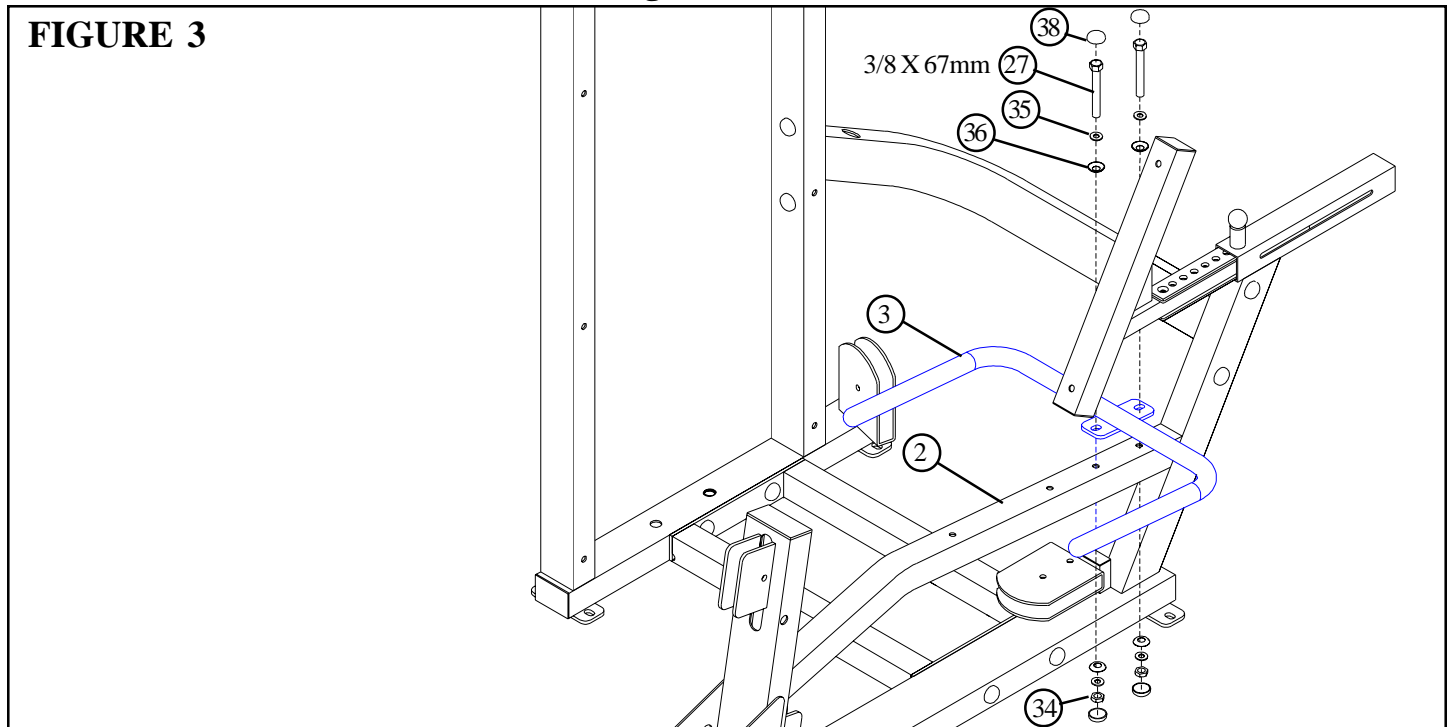

FIGURE 3
- **SECURELY** assemble the HANDLE (3) to the LEG PRESS FRAME (2) using four RH CAPS (38), two 3/8 X 67mm BOLTS (27), four 3/8" SAE WASHERS (35), four 3/8" RH WASHERS (36) and two 3/8" LOW HEIGHT LOCK NUTS (34) as shown in FIGURE 3.